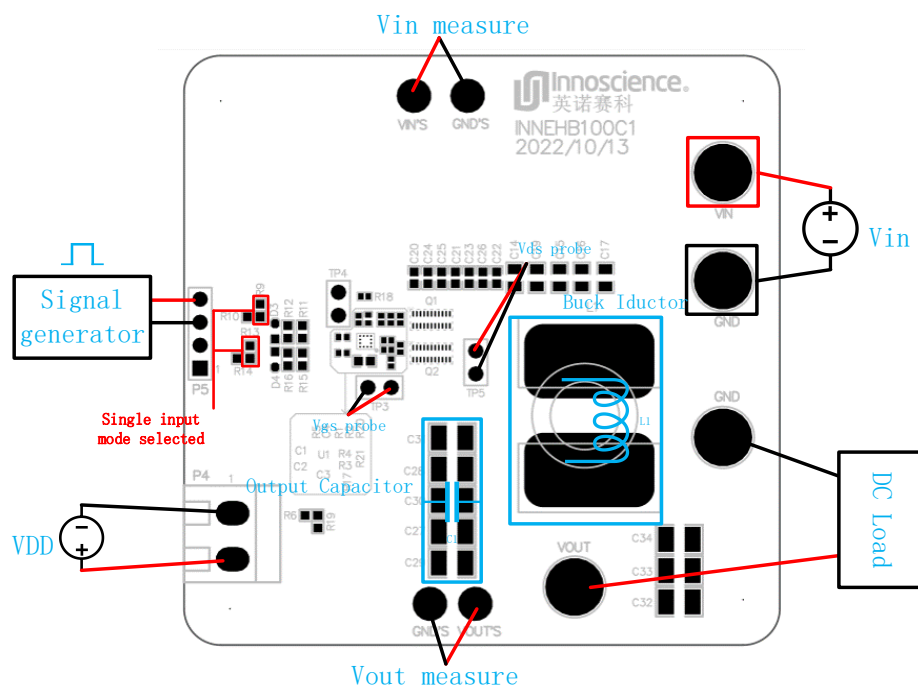

Figure 6 Single-PWM input Buck mode
2. Connect the DC voltage source to terminal **VIN** and common ground terminal **GND**, as shown in Figure 6 (Pay attention to the polarity).